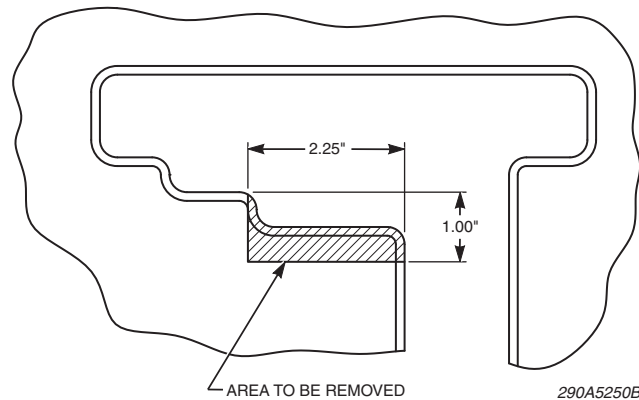

Figure 7: Removing a portion of the plastic panel
1. Remove the area shown in *Figure 7* in the plastic panel that you removed from the vehicle when preparing the mounting surface.